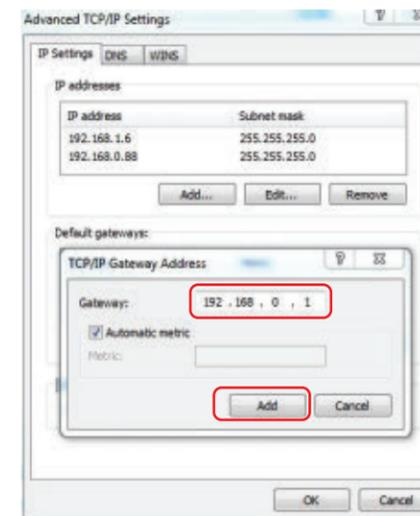

Fig. 6.11
- (5) Enter gateway address in the “TCP/IP Gateway Address” window, click “Add” (See Fig. 6.11).